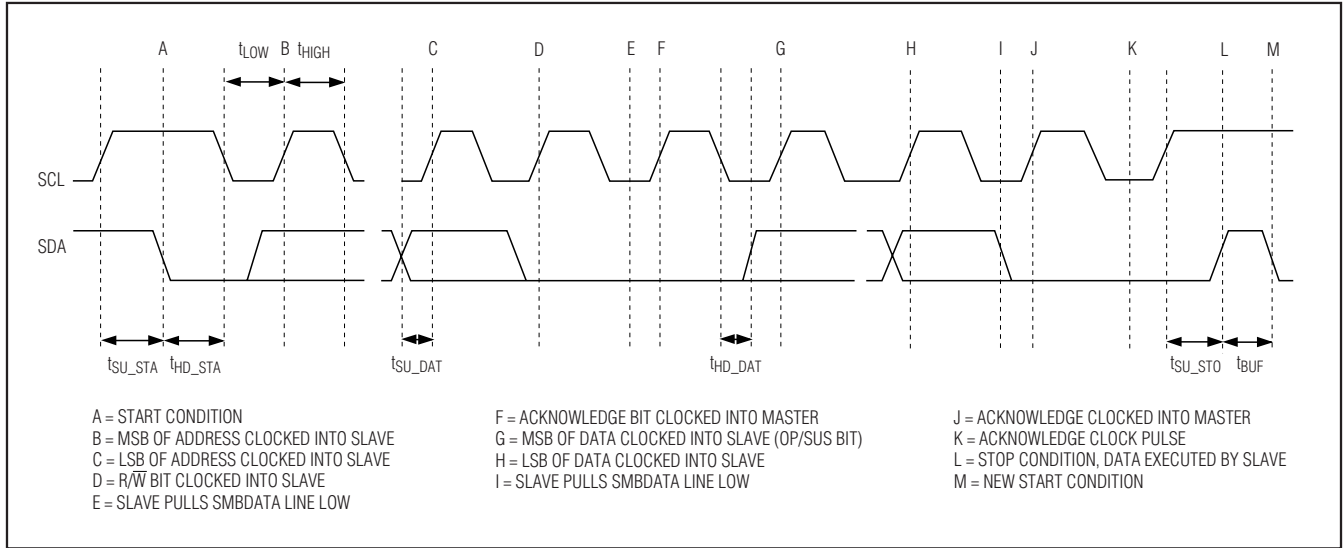

Figure 8. I2C Timing Diagram
The I2C serial interface consists of a serial-data line (SDA) and a serial-clock line (SCL). Standard I2C write-byte commands are used. Figure 8 shows a timing diagram for the I2C protocol. The MAX8821 is a slave-only device, relying upon a master to generate a clock signal. The master (typically a microprocessor) initiates data transfer on the bus and generates SCL to permit data transfer. A master device communicates to the MAX8821 by transmitting the proper 8-bit address followed by the 8-bit control byte. Each transmit sequence is framed by a START (A) condition and a STOP (L) condition. Each word transmitted over the bus